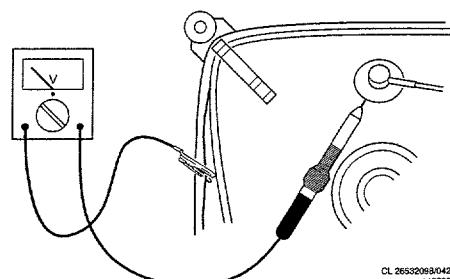

Fig. 3.1
2. In order to prevent damage to ICs and transistors, all high-voltage flashovers must be avoided. In order to prevent damage to the picture tube, the method shown in Fig. 3.1 should be used to discharge the picture tube. Use a high-voltage probe and a multimeter (position DC-V). Discharge until the meter reading is OV (after approx. 30s).